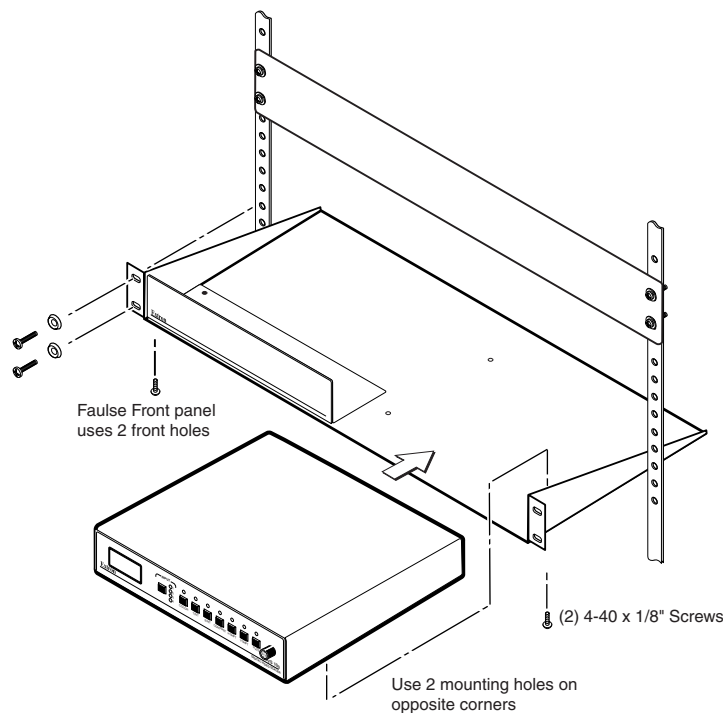

Figure 2 — Mounting the scaler
2. Mount the scaler on the rack shelf as shown in figure 2. Use two 4-40 x 1/8” screws in opposite (diagonal) corners to secure the case to the shelf.